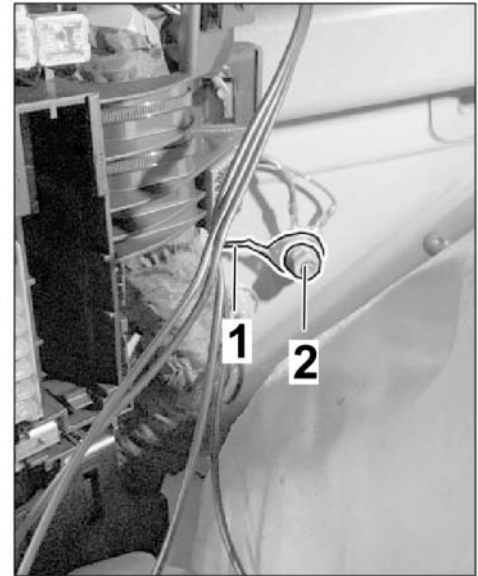

Figure 16
- 3.2.5 Route line \Rightarrow *Figure 16 -1- BK; 0.5²* (terminal 31) to the ground pin and install to the ground pin using cable ring eyelet (\Rightarrow *Figure 16 -2-*).